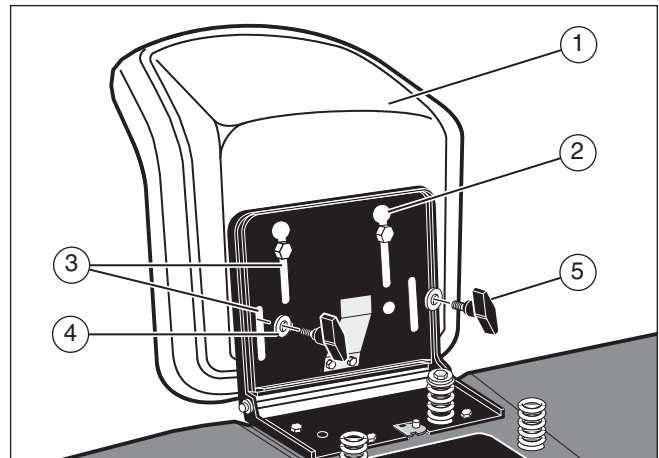

Figure 2
2. Align the holes in the seat hinge (2) to the holes in the seat (1) (see **Figure 2**). Fasten the seat to the seat hinge with the fasteners (4) and (5).
3. Check the operating position of the seat. If the seat needs to be adjusted, loosen the two wing bolts (5). Slide the seat forward or backward along the seat adjusting holes (3). Tighten the wing bolts.